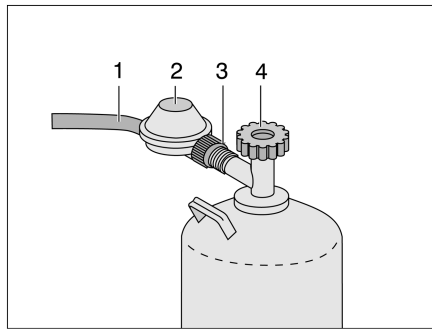

Fig. 241 Gas bottle connection
- Close the regulator tap (Fig. 241,4) on the gas bottle. Pay attention to the direction of the arrow.
- Hold the gas pressure regulator (Fig. 241,2) and open the knurled nut (Fig. 241,3) (left-handed thread).
- Remove the gas pressure regulator and the gas tube (Fig. 241,1) from the gas bottle.
- Position the gas pressure regulator (Fig. 241,2) and the gas tube (Fig. 241,1) on the gas bottle and tighten the knurled nut (Fig. 241,3) by hand (left-handed thread).